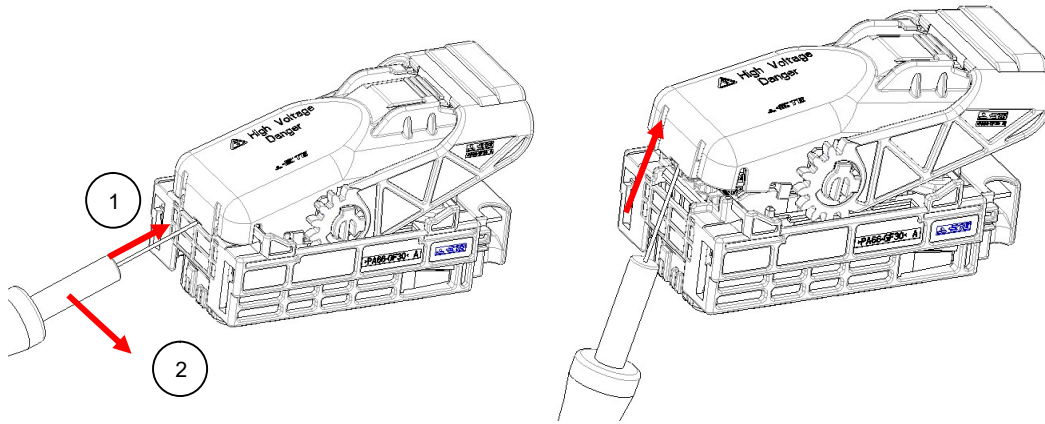

Fig. 16
- (3) Insert the REWORK TOOL to locking part, then push the REWORK TOOL to up-direction. Utilize the principles of the lever and fulcrum as shown Fig. 16.